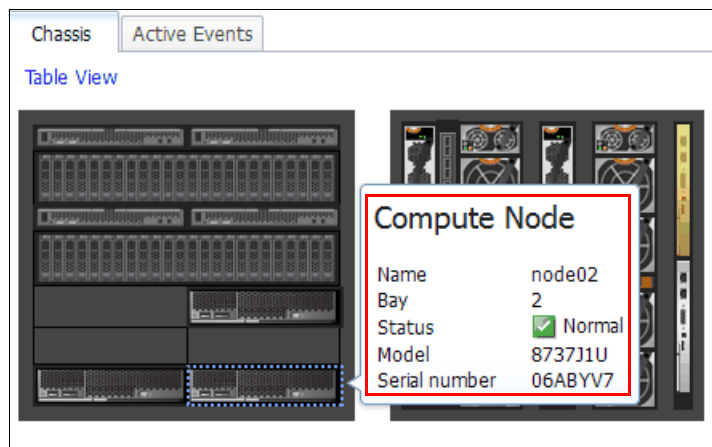
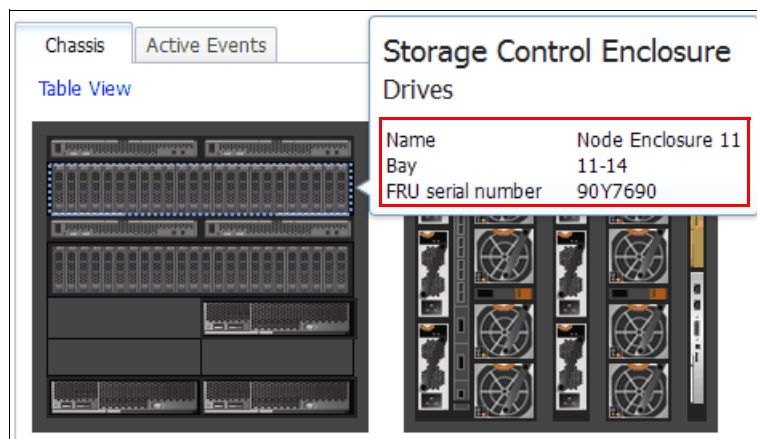

Figure 13-20 CMM chassis map - node canister status information
Figure 13-21 CMM chassis map - drive status information
3. Hover the mouse over a component to view information about it, as shown in Figure 13-20 and Figure 13-21